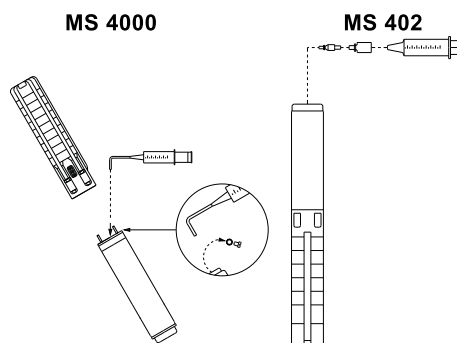

Fig. 3 Pump position during filling - MS 4000 and MS 402
1. Position the submersible pump as shown in fig. 3.
3. Inject liquid into the motor with the filling syringe as shown in fig. 3 until the liquid runs back out of the filling hole.